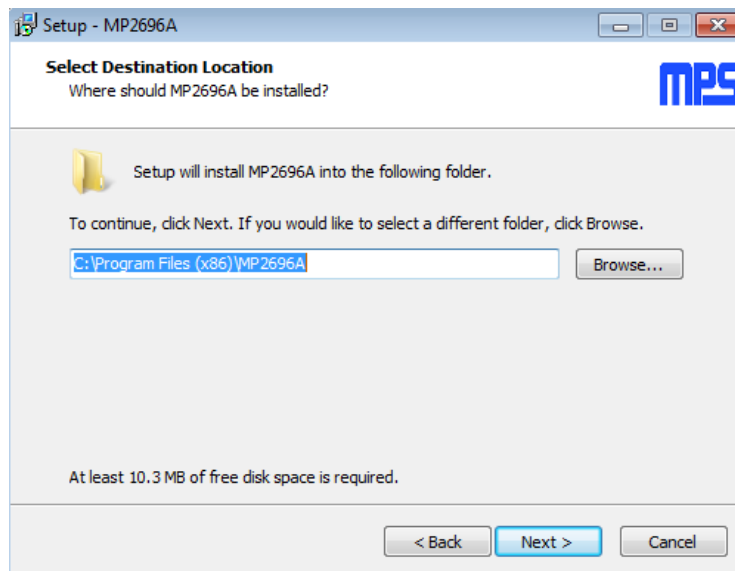

Figure 4: MPS I²C GUI Set-Up Guide
2. Double click the .exe file to open the software (see Figure 4).